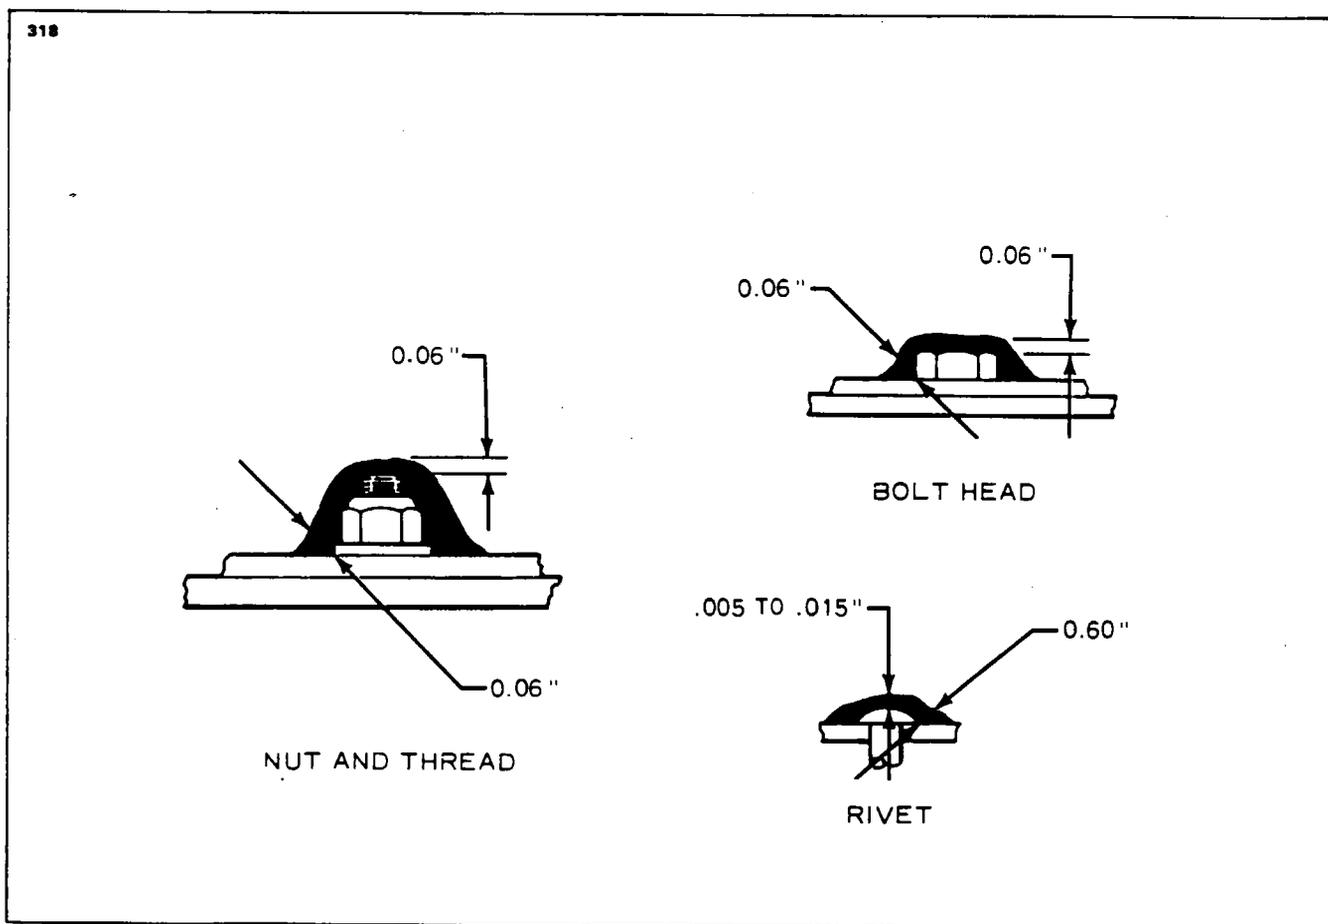

Figure 51-17. Bolts and Rivets Seals
**SEALING FASTENERS.** (Refer to Figure 51-17.)